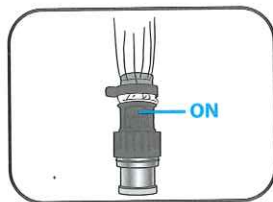

Figure-08
- Inflation Assembly is now ready for use (Figure-08), proceed next section, **Inflating a Vapor Balloon**.